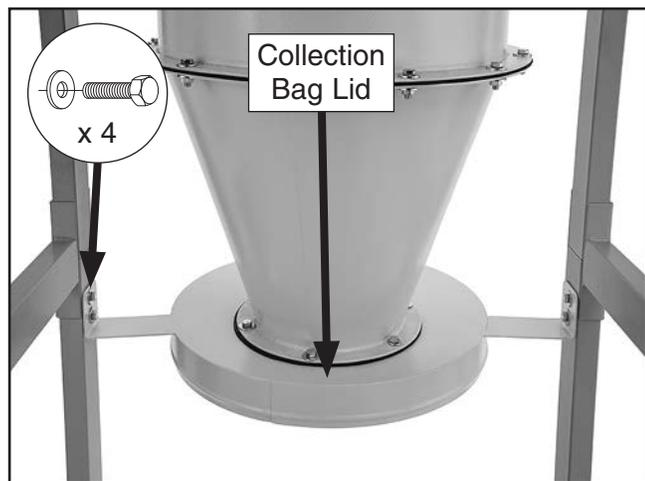

Figure 20. Collection bag lid attached to lower legs.
13. Attach collection bag lid to lower legs using (4) $\frac{5}{16}$ "-18 x $\frac{3}{4}$ " hex bolts and (4) $\frac{5}{16}$ " fender washers (see **Figure 20**).